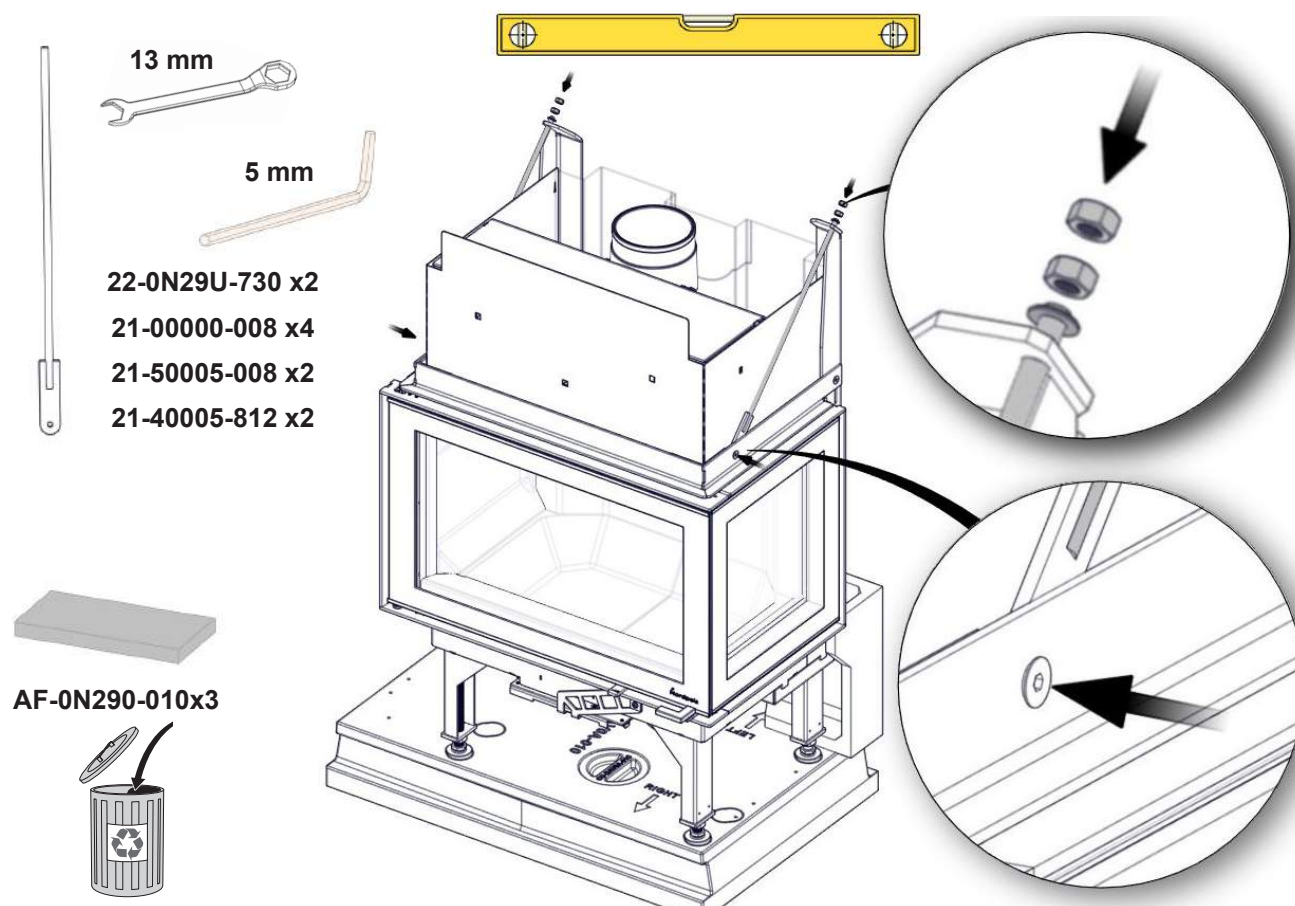

**FIG 8** Davos A Low\_N-29A
**FIG 8 a** Davos A Low\_N-29A
**FIG 8 b** Davos A Low\_N-29A